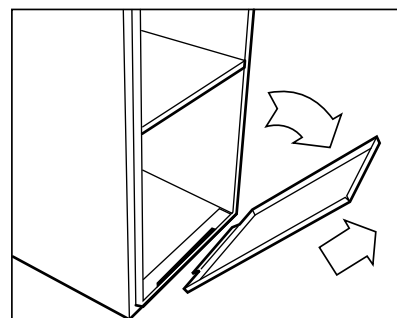

Fig. 22 - Blower Access Panel
- b. Remove blower access panel. See Fig. 22.